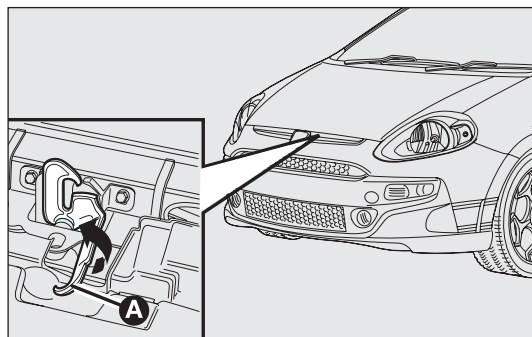

fig. 84
- ☐ pull the lever A-fig. 84 as shown in the figure;